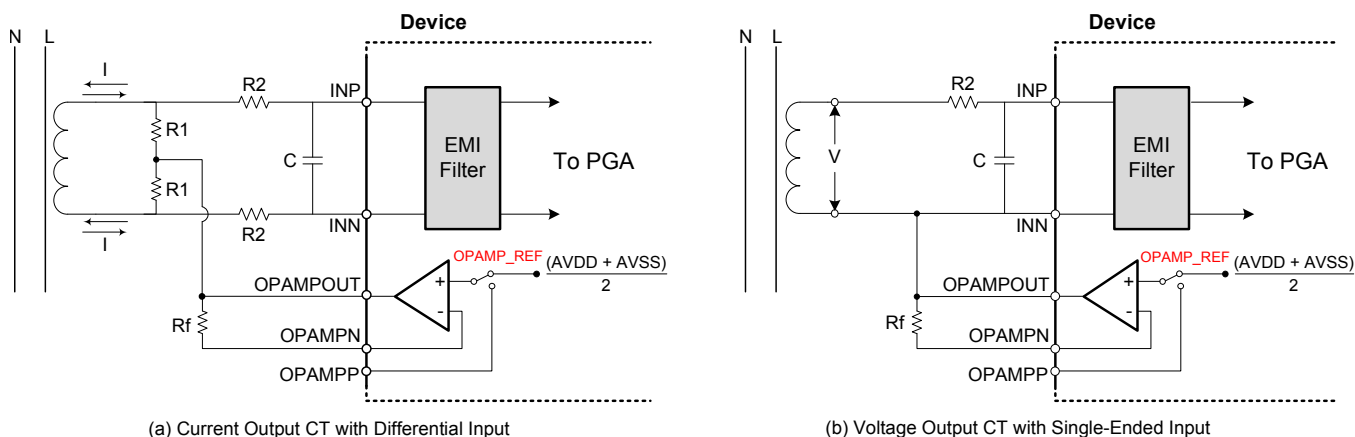

Figure 41. Simplified Current-Sensing Connections
Figure 41 shows a simplified diagram of typical configurations used for current sensing with a Rogowski coil, current transformer (CT), or an air coil that outputs a current or voltage. In the case of current-output transformers, the burden resistors (R_1) are used for current-to-voltage conversion. The burden resistor output is connected to the ADS130E08 INP and INN inputs through an antialiasing RC filter for current sensing. In the case of voltage-output transformers (such as certain types of Rogowski coils), the transformer output terminals are directly connected to the ADS130E08 INP and INN inputs through an antialiasing RC filter for current sensing. The common-mode bias voltage $(AVDD + AVSS) / 2$, can be obtained from the ADS130E08 by either configuring the internal op amp in a unity-gain configuration using the R_F resistor and setting bit 3 of CONFIG3: Configuration Register 3, or it can be generated externally with a simple resistor divider network between the positive and negative supplies.